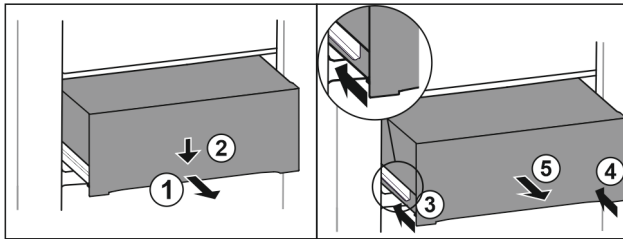

Fig. 154
- ▶ Pull out drawer half-way. Fig. 154 (1)
- ▶ Push the drawer down at the front. Fig. 154 (2)
- ▶ Push the left rail in by about 2 cm. Fig. 154 (3)
- ▶ Push the right rail in by about 2 cm. Fig. 154 (4)
- ▶ Remove drawer to the front. Fig. 154 (5)